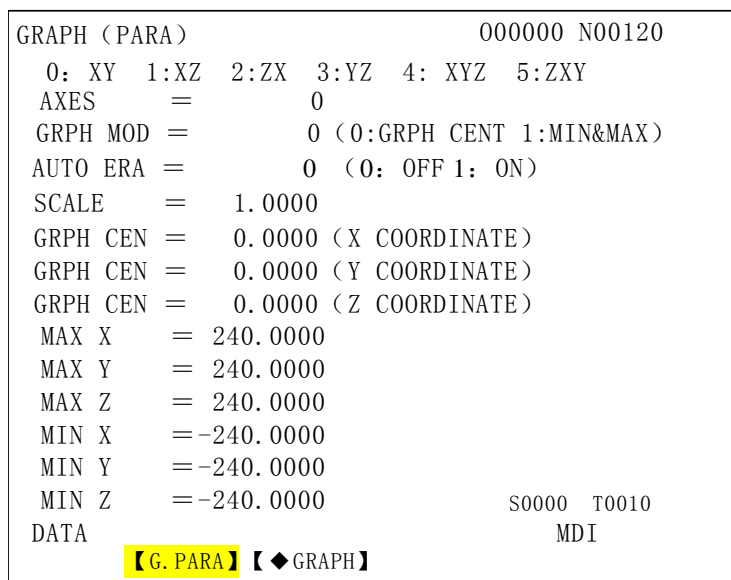

Fig. 3-6-1
Press  key to enter the graphic page that has two display modes: **【G. PARA】** and **【◆GRAPH】**. They can be switched over by pressing the corresponding soft keys. (See Fig.3-6-1)
1) Graphic parameter page Press **【G. PARA】** soft key to enter this page, see Fig.3-6-1.